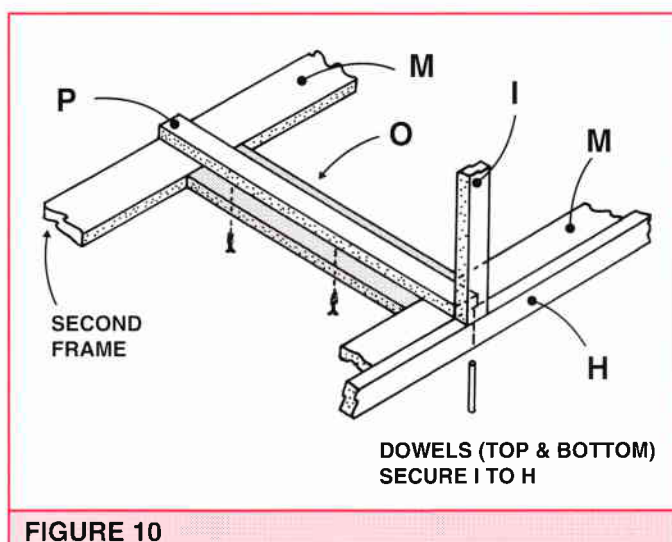

FIGURE 10
Cut the top drawer's middle support (O) from 90mm wide material to fit neatly inside the front and the back of the second frame, and glue and screw (two 30mm screws) from below to the top drawer's middle guide (P). (Figure 10)